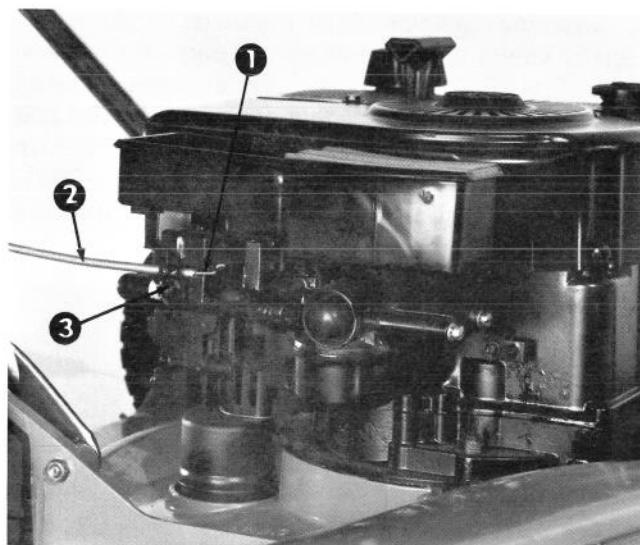

Figure 29
3. Loosen cable clamp screw until throttle cable is free to slide (Fig. 29).
4. Move carburetor control arm to the left until it contacts grounding bracket (Fig. 29). Pull throttle cable slightly to remove any slack, and tighten the cable clamp screw to lock the adjustment in place.